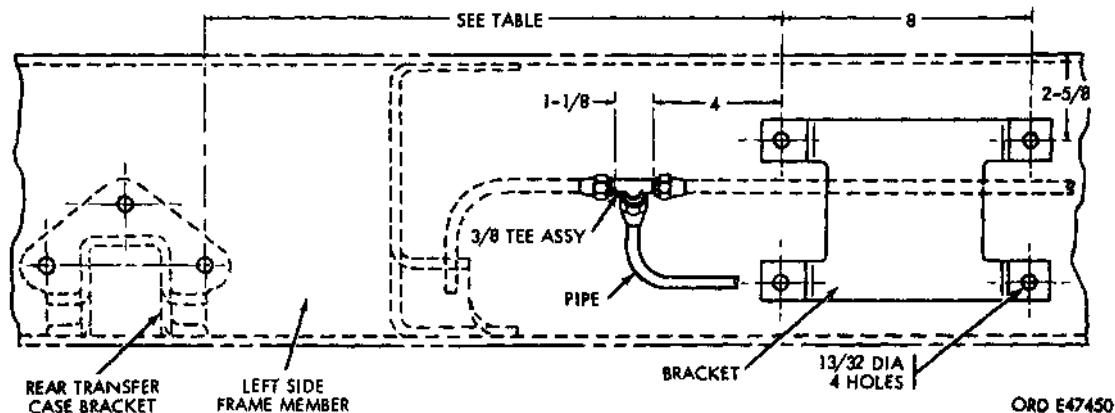

Figure 661. Bracket installation details
c. Drill four 13/32-inch diameter holes in left side frame member as shown in table (fig. 661).
Note. Fuel tank (fig. 661) must be removed to drill holes in medium wrecker truck M62.
e. Cut out 1-1/8-inch section from existing air line as shown (fig. 661).